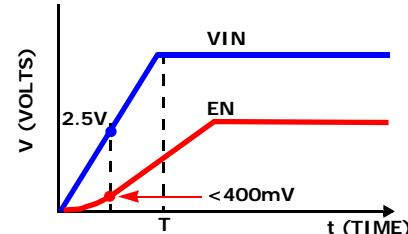

FIGURE 37. CIRCUIT IMPLEMENTATION WITH V_{IN} SLEW RATE
The enable (EN) input allows the user to control the turning on or off the regulator for purposes such as power-up sequencing. When the regulator is enabled, there is typically a 600 μ s delay for waking up the bandgap reference and then the soft-start-up begins. It is recommended that the EN voltage should be kept logic low (less than 400mV), until V_{IN} reaches 2.5V. Refer to Figure 37 for suggested circuit implementation with V_{IN} slew rate.